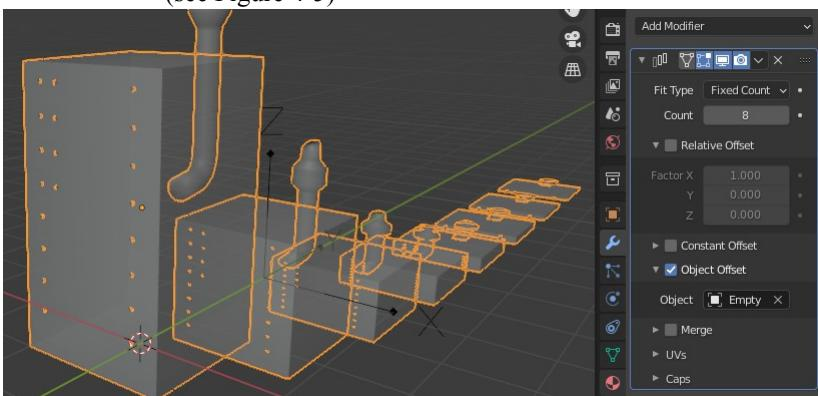

Figure 4-5 Object Offset scaling issue
3. Now set the array offset object. Re-select the `fridge0` object and in the Object field select the empty object. You should see something odd but to make it a bit clearer increase the Count to 8 and move the empty object a small distance in the Y direction (see Figure 4-5)